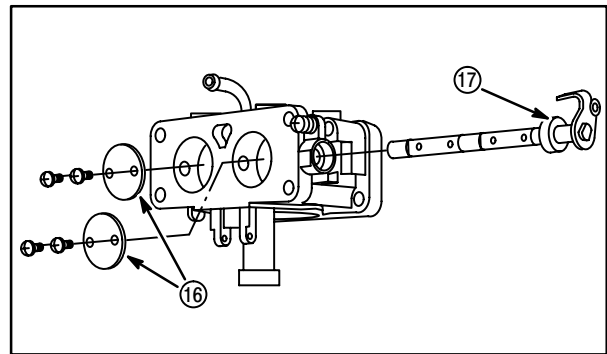

Fig. 122
11. Mark throttle plates (16), **Fig. 122**, before removal so they will be re-installed in the original position. Sides of throttle plate are beveled.